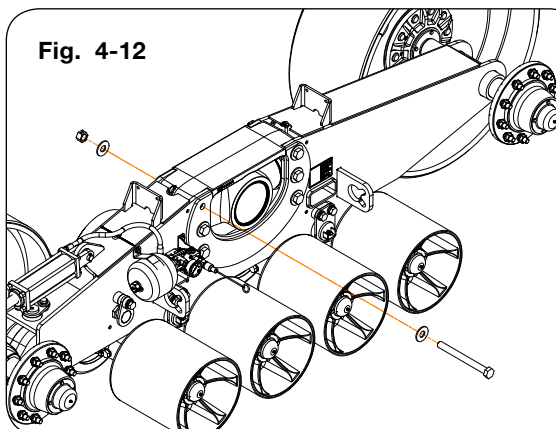

Fig. 4-12
12. Remove the six 1"-8UNC x 10 1/2" cap screws, twelve 1" flat washers (9405-118), and six 1"-8UNC locknuts (92199) holding the trunnion housing to the track frame. Keep hardware for reassembly. (Fig. 4-12)